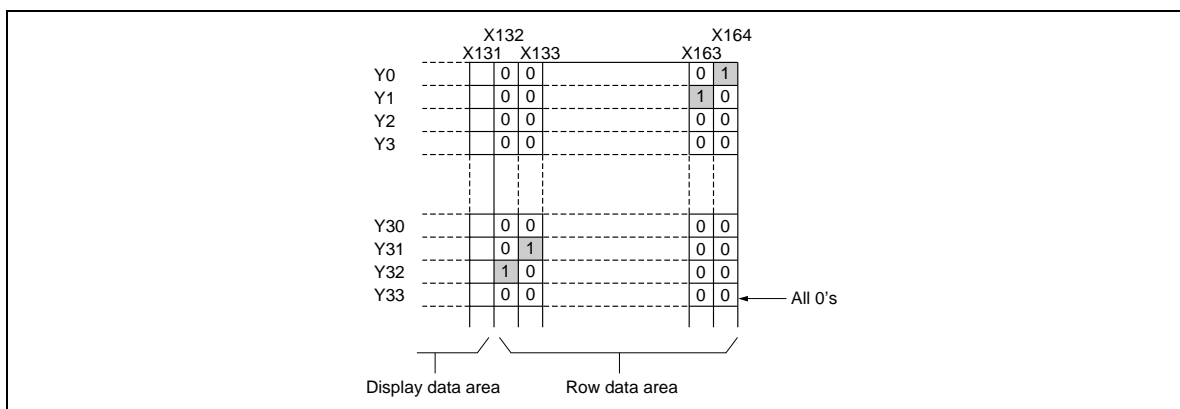

Figure 35 How to Set Row Data for 33-Row Output from the Right Side
- (1) After busy time is terminated, an X or Y address is not incremented until 0.5-clock time has passed. If an X or Y address is read during this time period, non-updated data will be read. (The addresses are incremented even in this case.) In addition, the address increment direction should not be changed during this time since it will cause malfunctions.
- (2) Although the maximum output rows is 33 when 33-row-output mode from the right side is specified, any multiplexing duty ratio can be specified. Therefore, row output data sufficient to fill the specified duty must be input in the Y direction. Figure 35 shows how to set row data in the case of 1/34 multiplexing duty ratio. In this case, 0s must be set in Y33 since data for the 34th row (Y33) are not output.
- (3) Do not set the C select register's CLN bits to 0 for the M signal of C-type waveform.